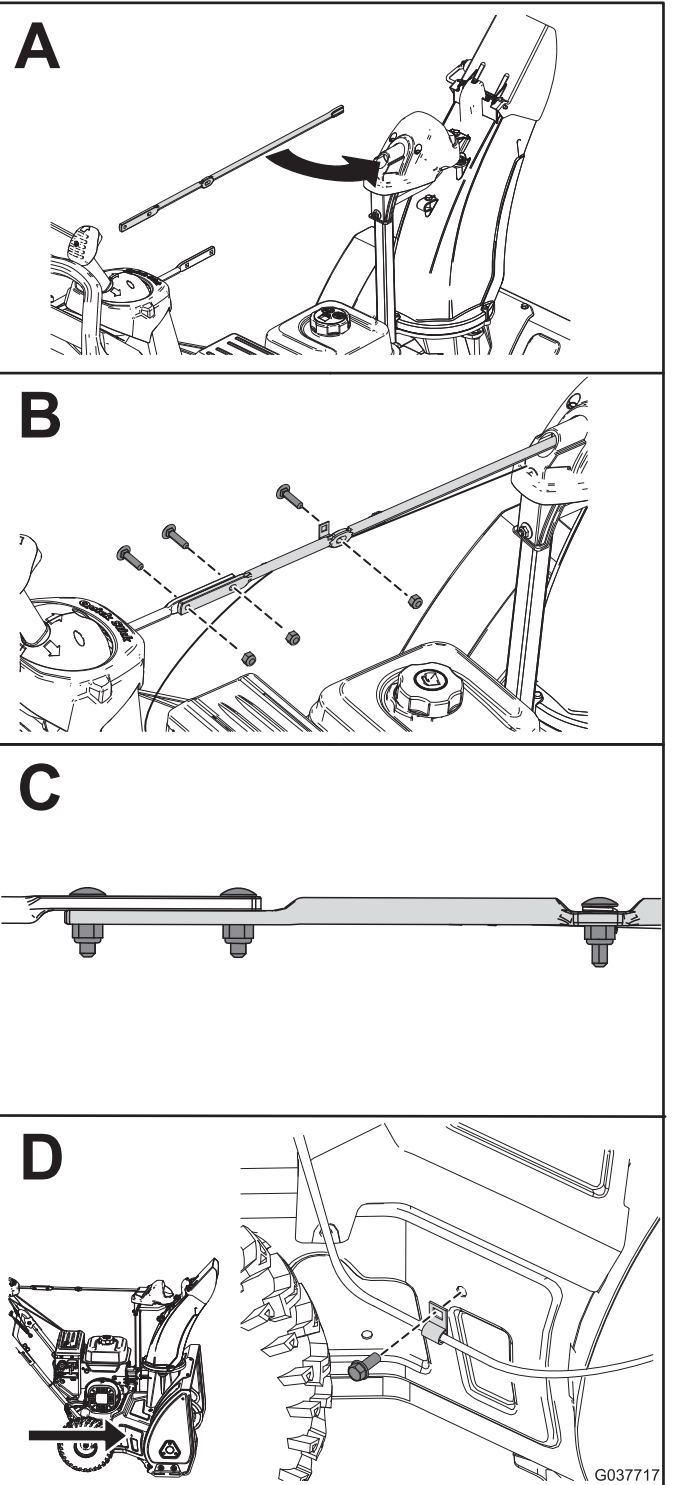

Figure 6
2. Assemble the chute rod and secure the cables (Figure 6).